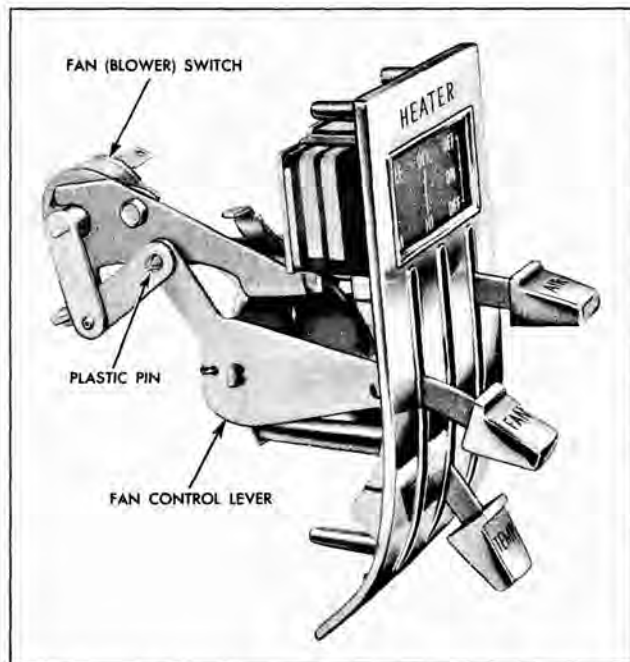

Fig. 2-18 Tempest Control Panel Fan (Blower) Linkage
4. Remove heater blower switch from control assembly (Figs. 2-18 and 2-19).